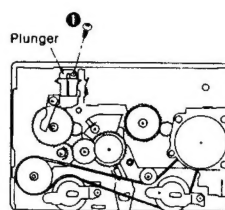

Fig. 7
2. Remove one screw (1). (See Fig. 7.)